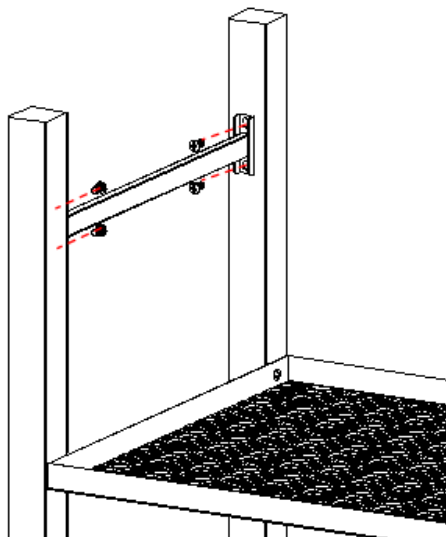

Fig. 5
Procedure: Attach the Cart Right Bracket to Right Rear Leg #1 and Right Front Leg #2 using (4) M6x12 bolts as shown as Fig. 5.